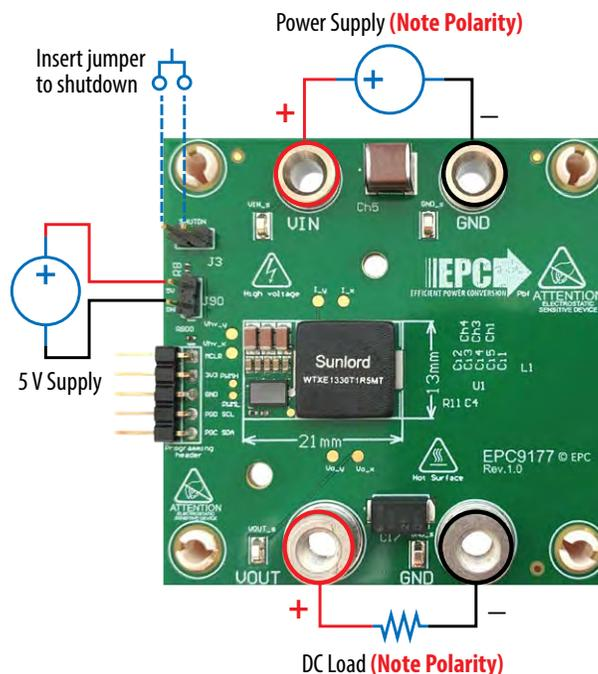

Figure 5: Power and jumper connections to the EPC9177 demonstration board for **buck mode** operation (default)
To operate the EPC9177 in buck mode, connect the input supply to the load as shown in figure 5.
On the EPC9177 demonstration board, there is an option to **Disable** operation by insertion of a 100 mil jumper into **J3** as shown in figure 5.
The EPC9177 demonstration board is easy to set up to evaluate the performance of the EPC23102 eGaN IC. Refer to figures 5, 6 & 7 for proper connection and measurement setup and follow the procedure below to operate the board:
2. With power off, connect the input power supply between VIN (**J6**) and GND (**J4**) paying careful attention to the polarity as shown in figure 5. A shunt can be inserted in series with the positive supply to measure the input current. **Note that shunt measurement must be floating with respect to GND.**
3. With power off, connect a suitable load between VOUT (**J7**) and GND (**J5**) paying careful attention to the polarity as shown in figure 5.
4. With power off, connect a gate and controller power supply set to 5 V to (**J90**) paying careful attention to the polarity as shown in figure 5. This power supply needs to be capable of supplying at least 200 mA of current.